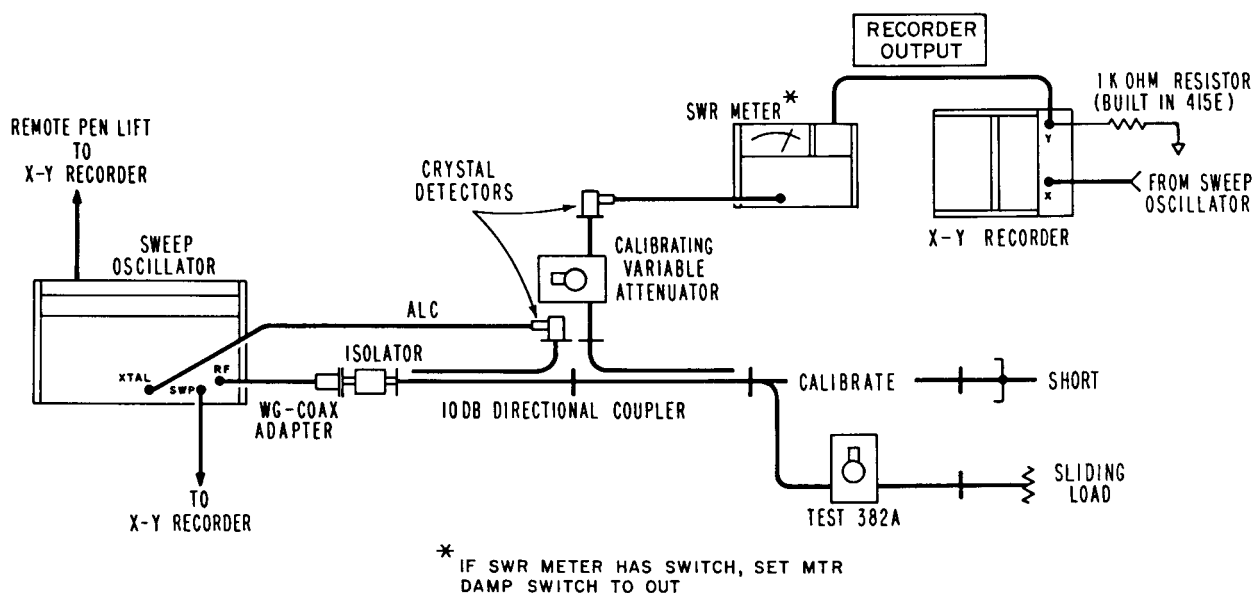

Figure 2 RF Pre-Insertion – Y-Z Recorder Setup for ? Tests
This test will obtain the SWR by measuring the reflection coefficient and calculating the SWR. Connect the instruments as shown in Figure 2.
1. With the instruments connected as in Figure 2 on page 8, the calibrating attenuator set to 35 dB, and the short connected, run a slow trace. If a moveable short is used, rapidly phase the short while sweeping. The average of the fine grain variation of the trace is the calibration curve.
1. In the setup of Figure 2 on page 8 connect a slotted line and SWR meter between test setup and 382A under test.